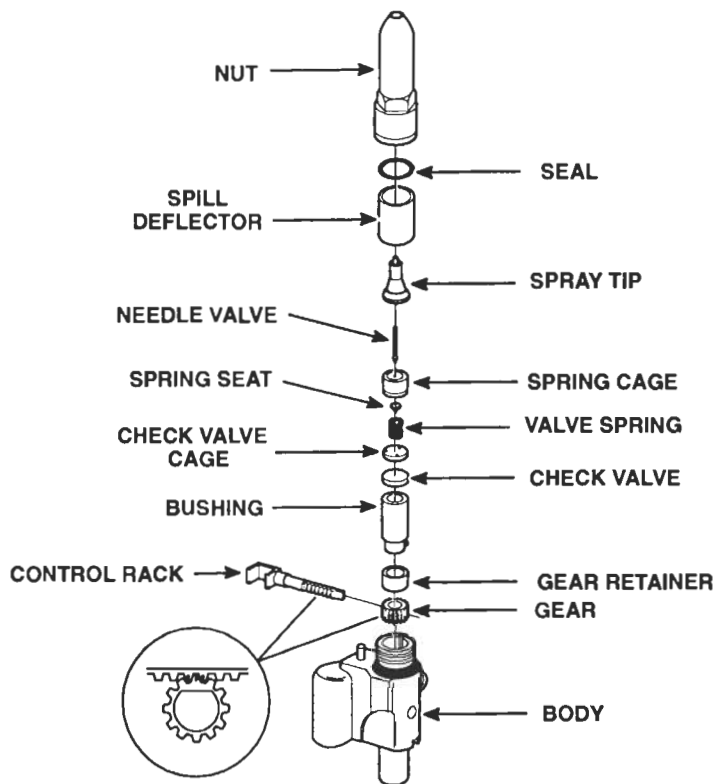

Figure 30. Injector Rack, Gear, Spray Tip and Valve Assembly
9. Note the marked teeth on the control rack and (Figure 30.) gear. Then look into the body bore and move the rack until you can see the drill marks. Hold the rack in this position.